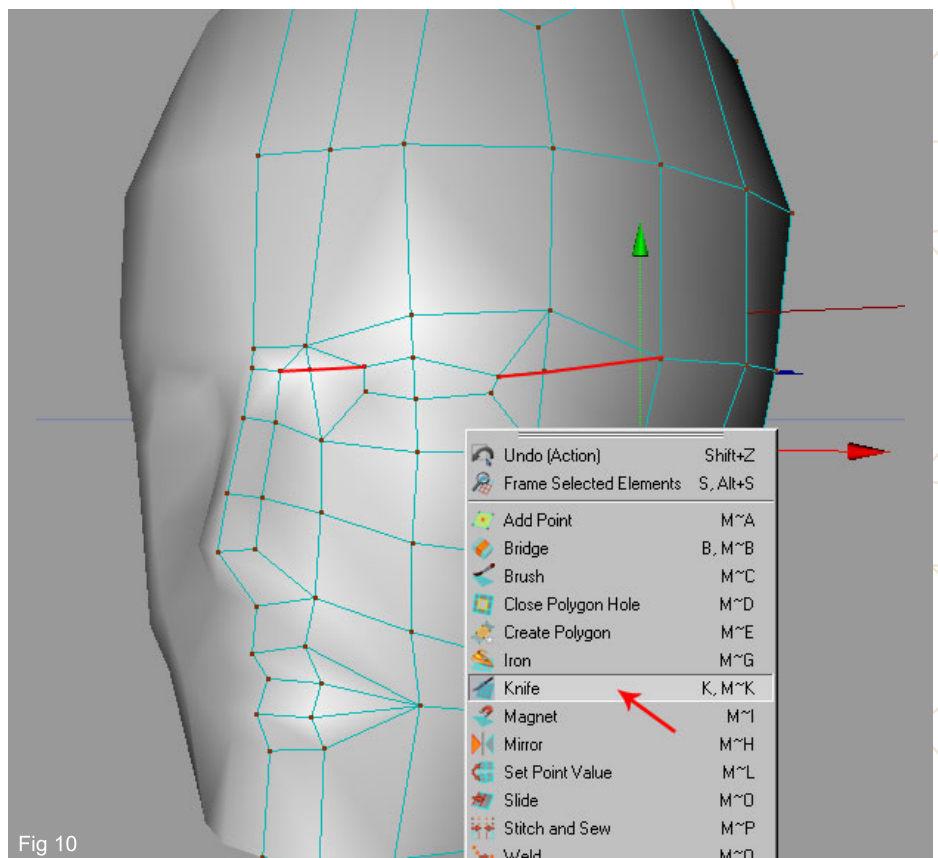

Fig 10
10. Now we are going to define the eye area. Add the edges as shown in fig 10 and use the Knife Tool to connect the vertexes. This will help create a more convincing socket shape for the eye.